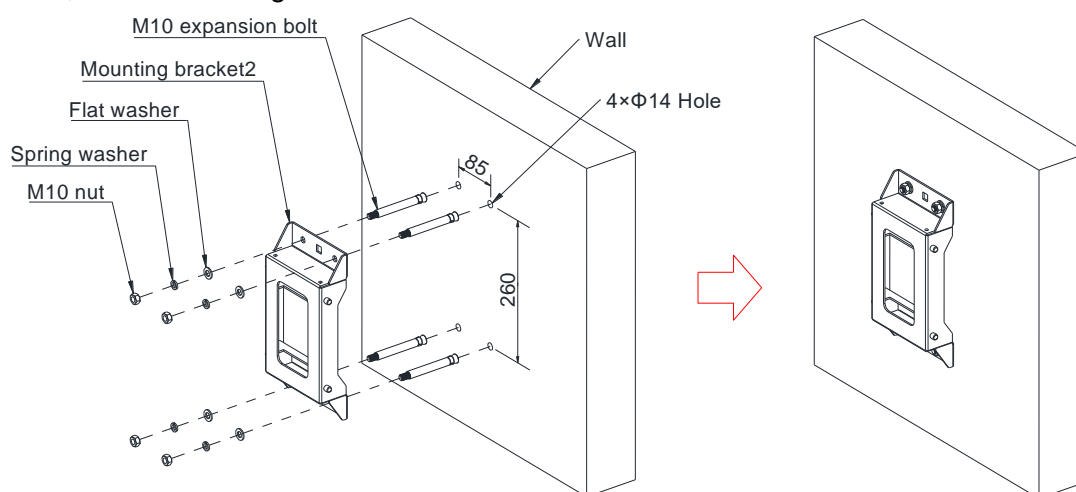

Figure 3.7-8 Fix Bracket 2 on Wall
Step 4: Use a hammer to knock four M10 \times 110 expansion bolts into the wall, and fix bracket 2 on the wall, as shown in Figure 3.7-8.